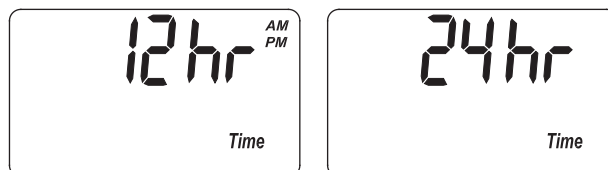

FIG. 31
1. Press and hold the PROGRAM button until the screen in Figure 27 is displayed. Once in this display, press the PROGRAM button five times and one of the two displays in Figure 31 is shown.